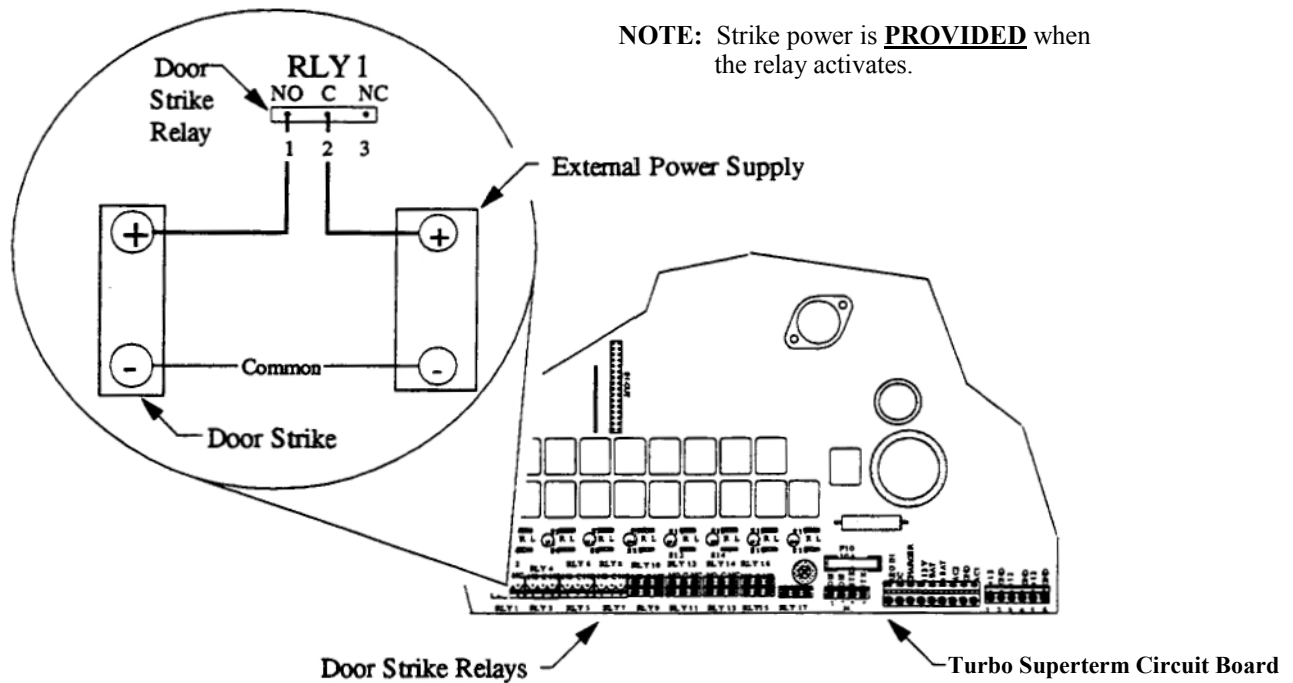

Figure 21 - REMOTE Power Fail Secure Door Strike Relay Connection - Normally Open (NO) Condition
Table 20 lists the connections between the RLY#x terminal strip and the door strike for a Normally Open (NO) relay condition (see Figure 21).